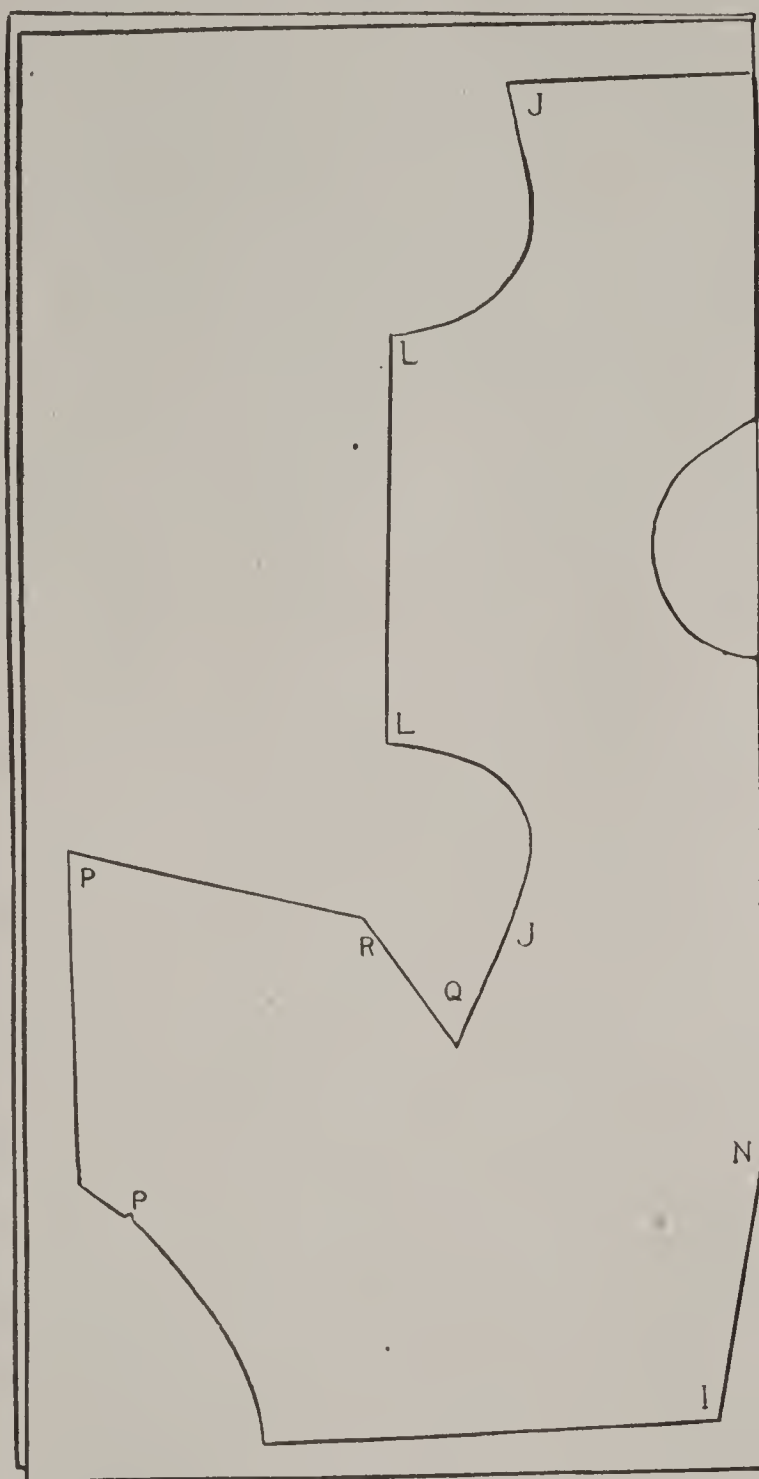
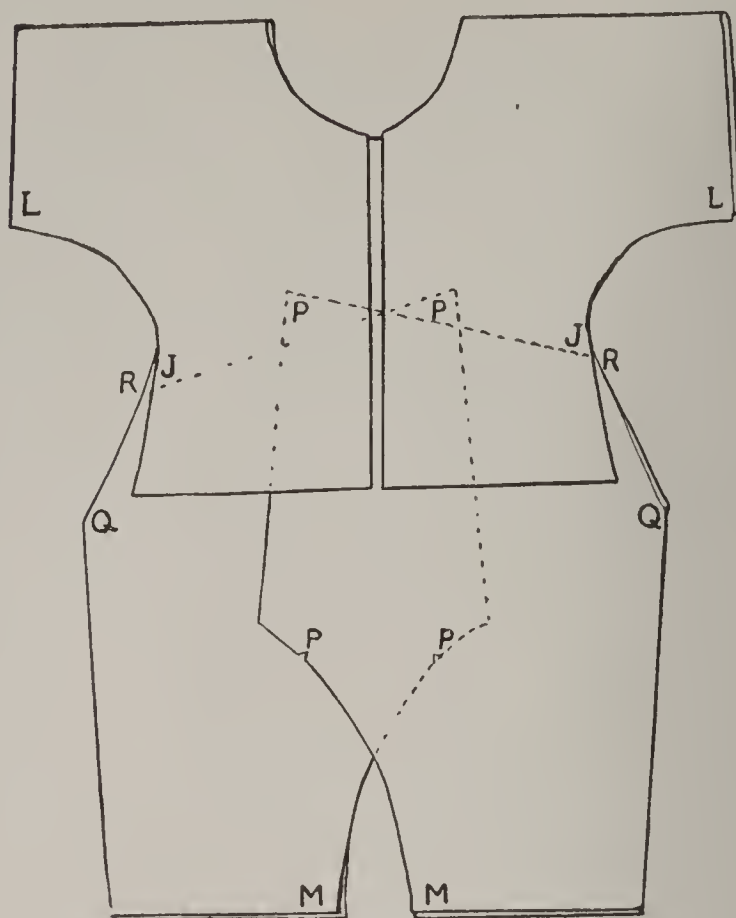
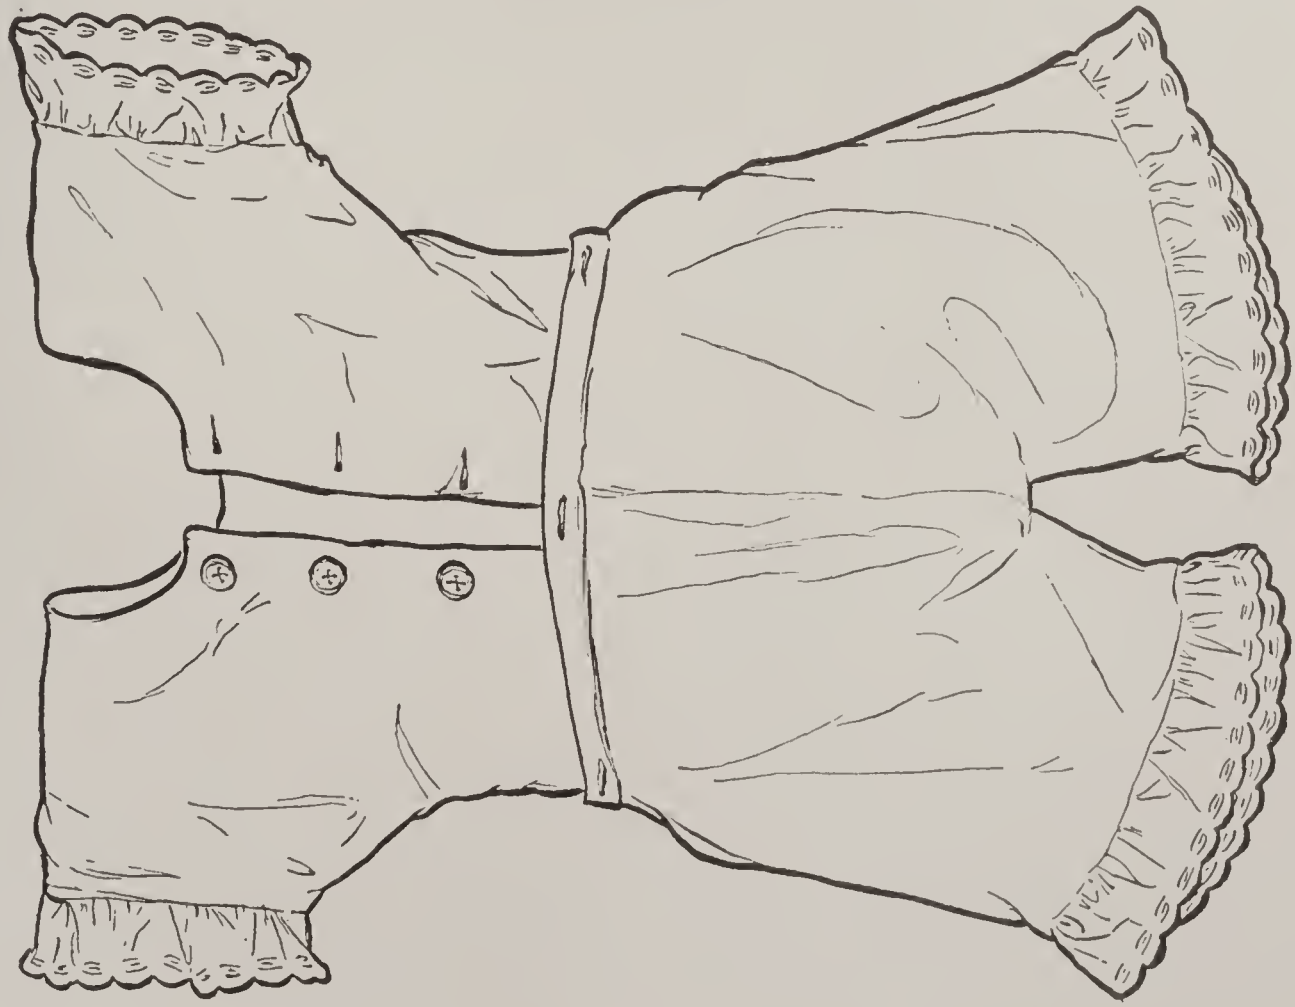

FIG. 25
FIG. 26
FIG. 27
25. This entire garment is in one piece of cloth, and opens at the back. Fig. 26 gives the cut-out garment folded before being sewed. The dotted lines show the edges of the drawers hidden under the waist and one drawer leg. Fell the two edges, PP and PP together, Figs. 25 and 26; then fell the leg edge, PM to NI, Fig. 25. Fell together the arm and waist seam LJ and LJ, Figs. 25 and 26. Face and gusset the plackets, RQ, Fig. 25. Hem the bottom of the legs; also opening sides of waist and bottom edge. Use a bias strip of the goods for facing the edge of neck. Gather the loose top edge of drawers and sew on a band; fasten to waist with buttons and buttonholes; fasten back of waist in same manner. Trim with whipped on over-and-over stitch, ruffles of lace, Fig. 27 and Fig. 28.